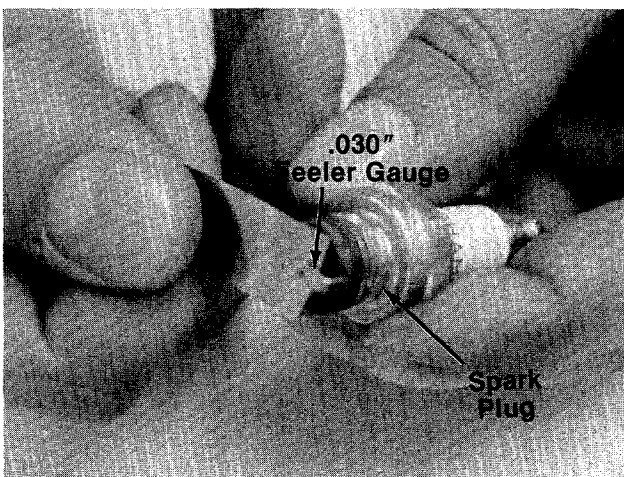

**FIGURE 28.**
**CLEAN AIR CLEANER** and re-oil element every 25 hours under normal conditions. Clean every few hours under extremely dusty conditions. Poor engine performance and flooding usually indicates that the air cleaner should be serviced. See figure 28.